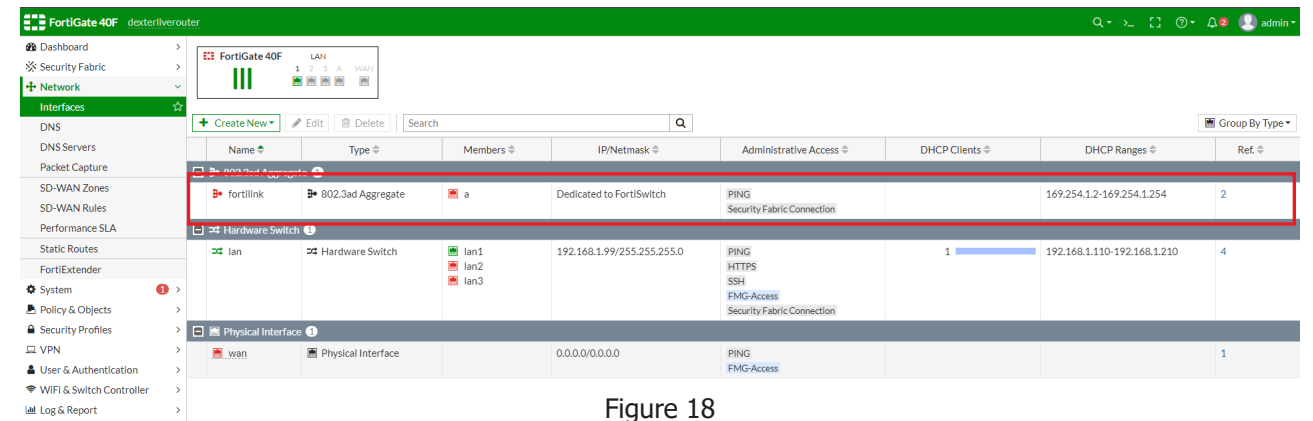

Figure 18
11. Disconnect the fourth port (port A -) from the fortilink interface. To do this, navigate to "Network" in the navigation panel, then select "Interfaces." Double click the "fortilink" interface. (Figure 18)